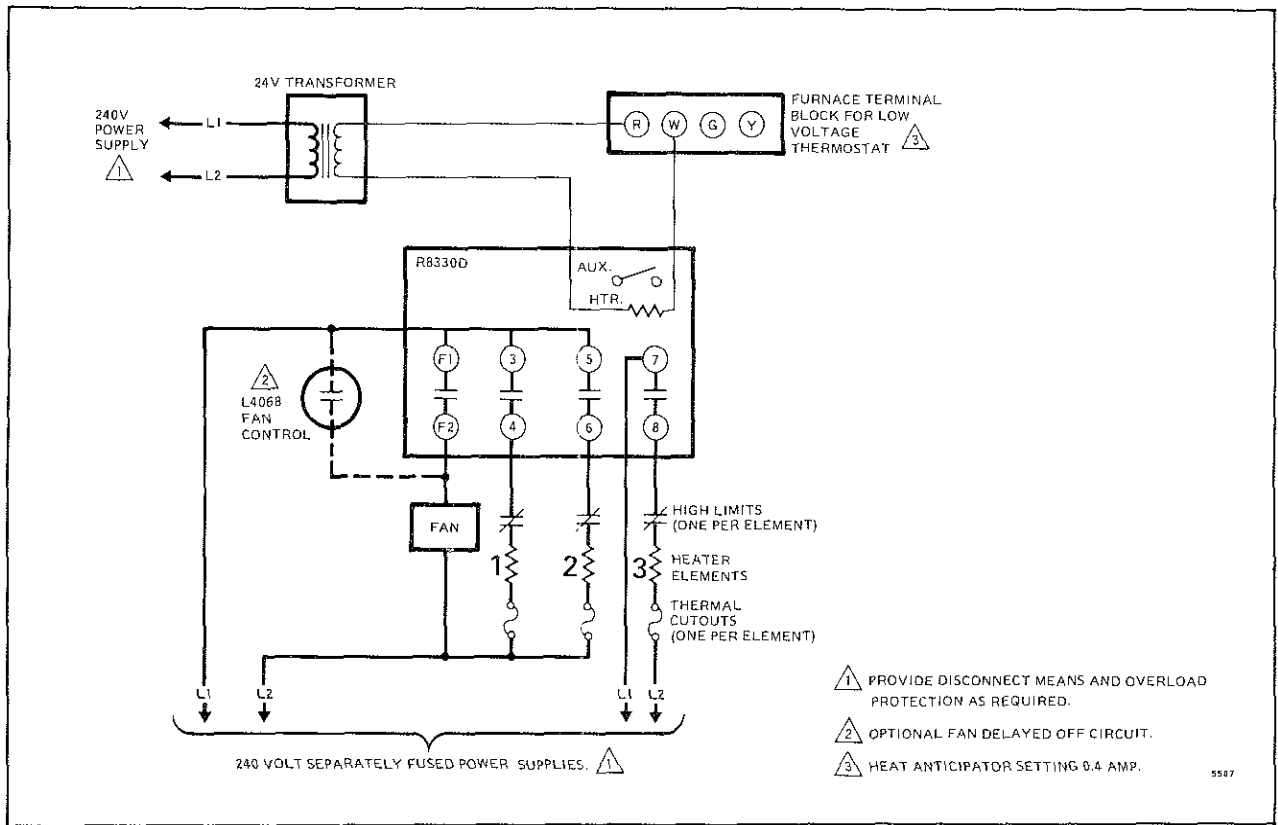
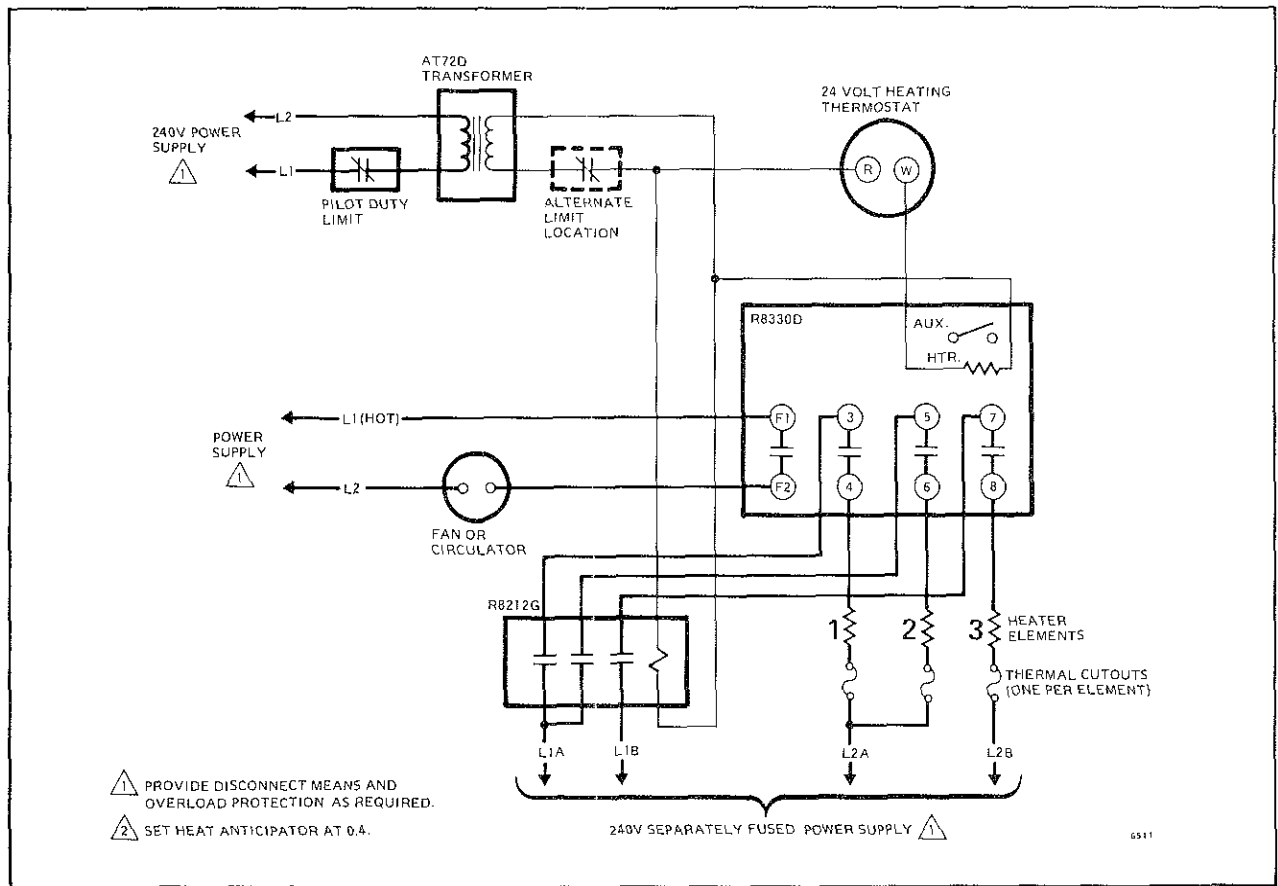

FIG. 14—SINGLE SPEED FAN WIRING.
FIG. 15—TYPICAL HOOKUP FOR R8330D WITH PILOT DUTY LIMIT—3 ELEMENTS.
- 2 FAN MAY BE WIRED FOR DELAYED OFF. REFER TO FIG. 14
All wiring must comply with applicable codes and ordinances. Refer to manufacturer's wiring diagram if available. Figs. 5 to 13 show typical hookups using the R8330D in different systems with up to 9 elements. An optional method of wiring a single speed fan is shown in Fig. 14. Figs. 15 and 16 show pilot duty limit hookups for typical systems. Fold one of the figure pages open to the needed furnace system schematic. The wiring instructions are repeated opposite both pages of figures for convenience.
- d. In pilot duty limit systems, add contactor(s) as shown in Figs. 15 and 16.
Set the system thermostat to call for heat and make sure that all elements sequence on and off properly and that fan starts with first element on and stays on until all elements are off. Refer to Operation Sequence on appropriate wiring schematic. In pilot duty limit systems, contactor(s) should drop out when control circuit is de-energized by the pilot duty limit (Figs. 15 and 16).